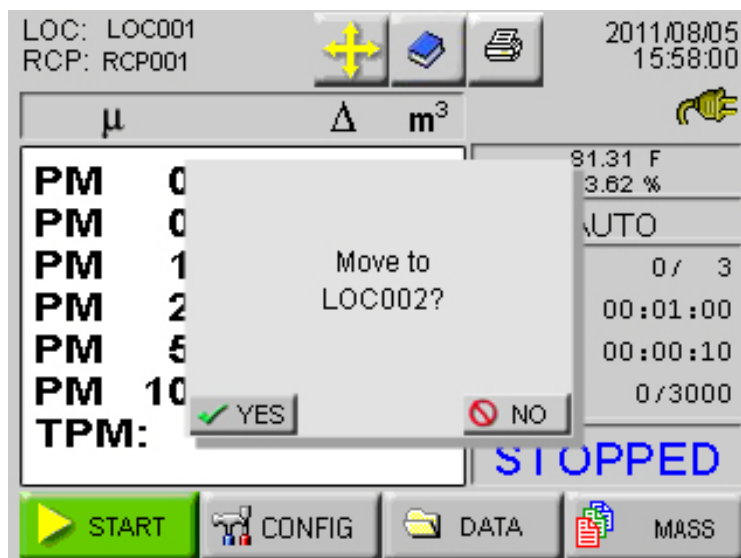

Figure 5-47 Auto Increment Prompt
- The user is prompted to move to the next location after the programmed number of cycle. See Figure 5-47.